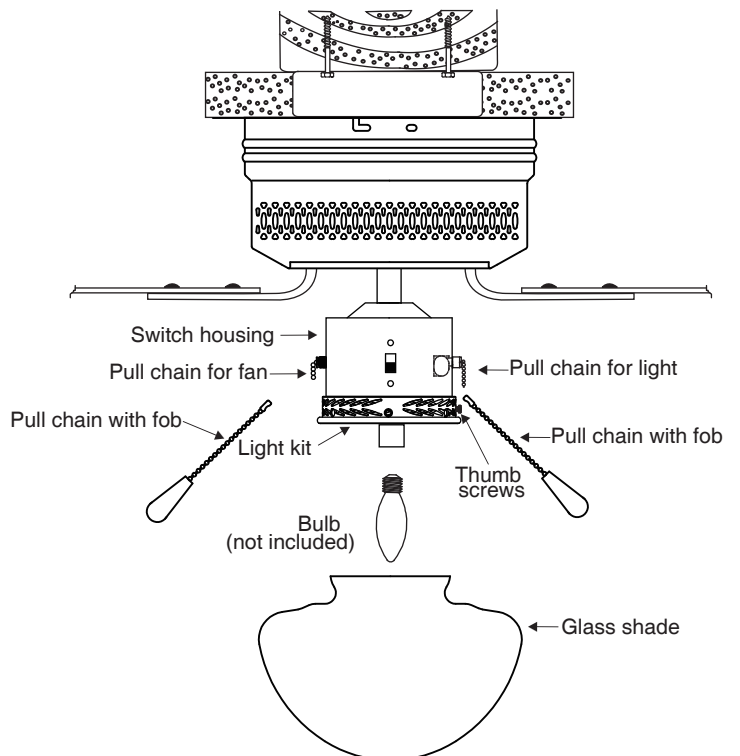

Fig. 10
3. Attach one pull chain with fob to the chain for the light, and attach one pull chain with fob to the chain for the fan (see Fig. 10).